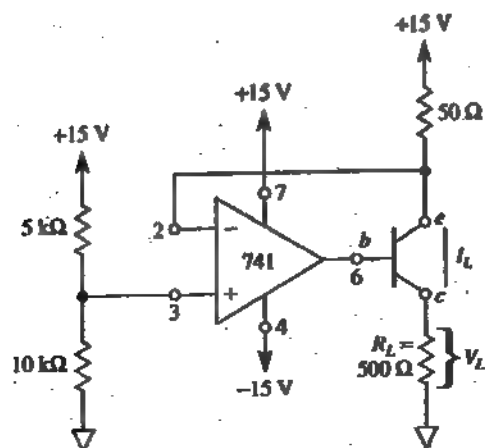

FIGURE PS-7
- 5-7. For the constant-current source shown in Fig. PS-7, (a) draw the current direction, the emitter arrow, and state if the transistor is npn or pnp; (b) find I ; (c) find V_L .